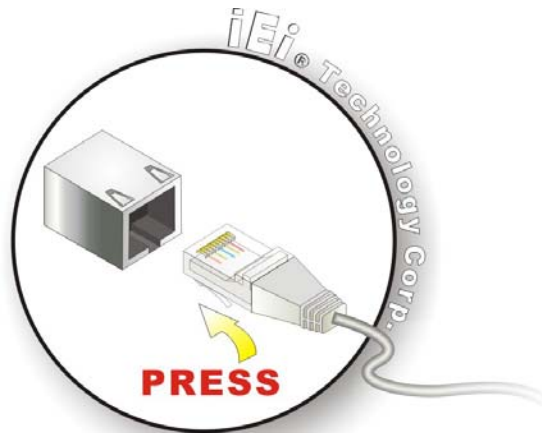

Figure 2-8: LAN Connection
Step 2: Align the connectors. Align the RJ-45 connector on the LAN cable with one of the RJ-45 connectors on the bottom panel of the AFL-W19A/W19B/17D/W15A-GM45. See Figure 2-8.